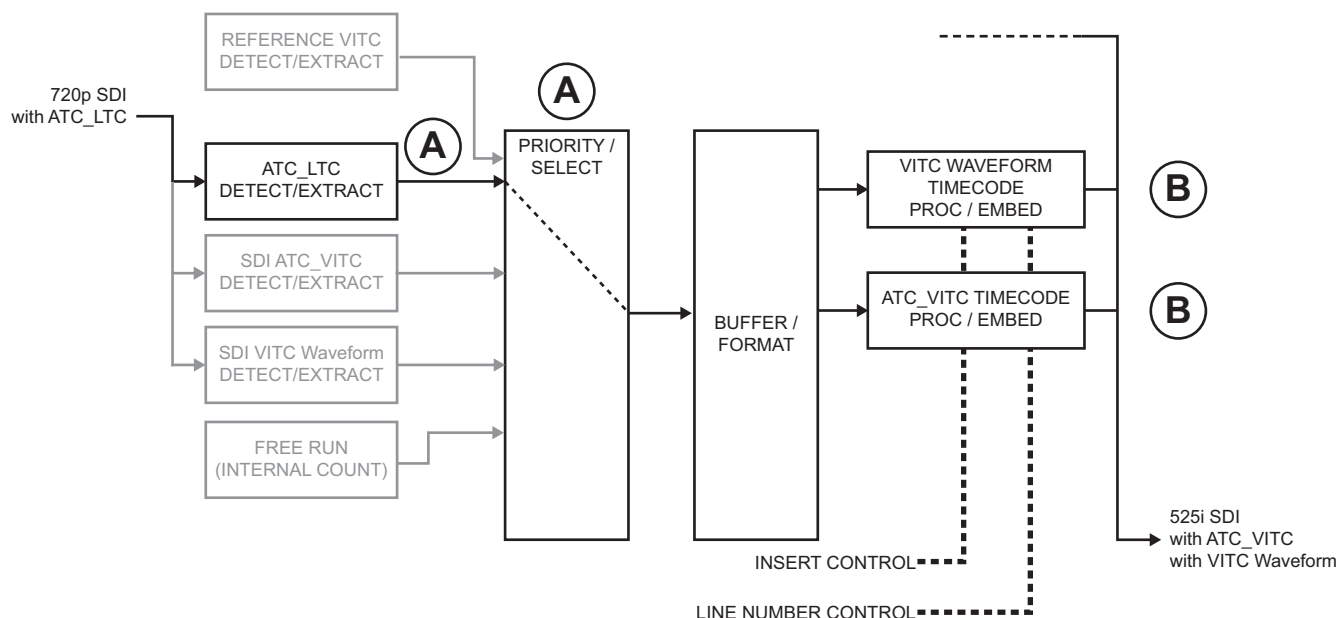

Figure 16 Using SDI ATC_VITC and VITC Waveform Timecode Data
Figure 16 is an example (B) of providing both SDI ATC_VITC and VITC waveform timecode data in the converted SD output video.
As such set both **SD ATC VITC Insertion** and **SD VITC Waveform Insertion** to **Enabled**. In **Figure 16**, the line numbers are set to the default SMPTE 12M-2-2008 recommended values.